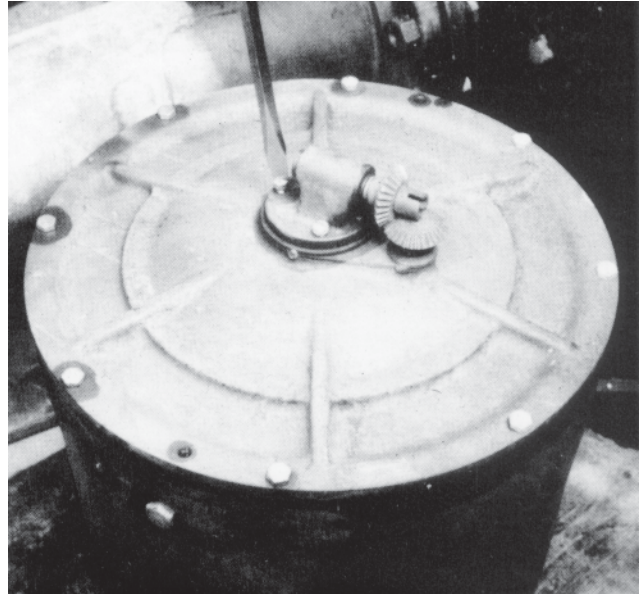

Figure 19 –Removing Gear and Bearing Block
1. The gear and bearing block assembly, Figure 19, is removed from the outer housing by taking out the screws holding the bearing block in place.